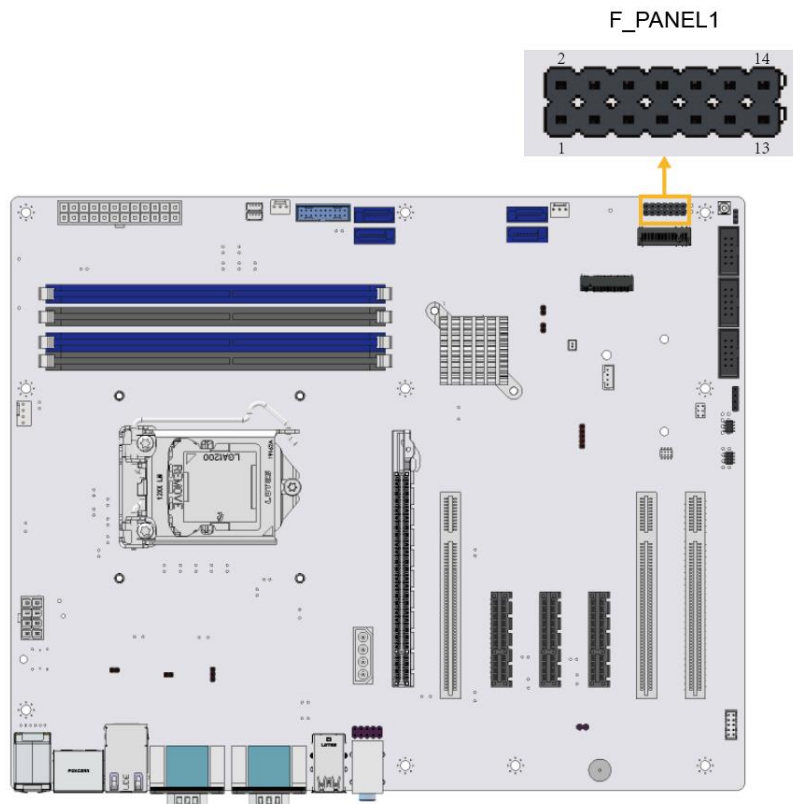

Figure 3-18: Front Panel Connector Location
- CN Location:** See **Figure 3-18**